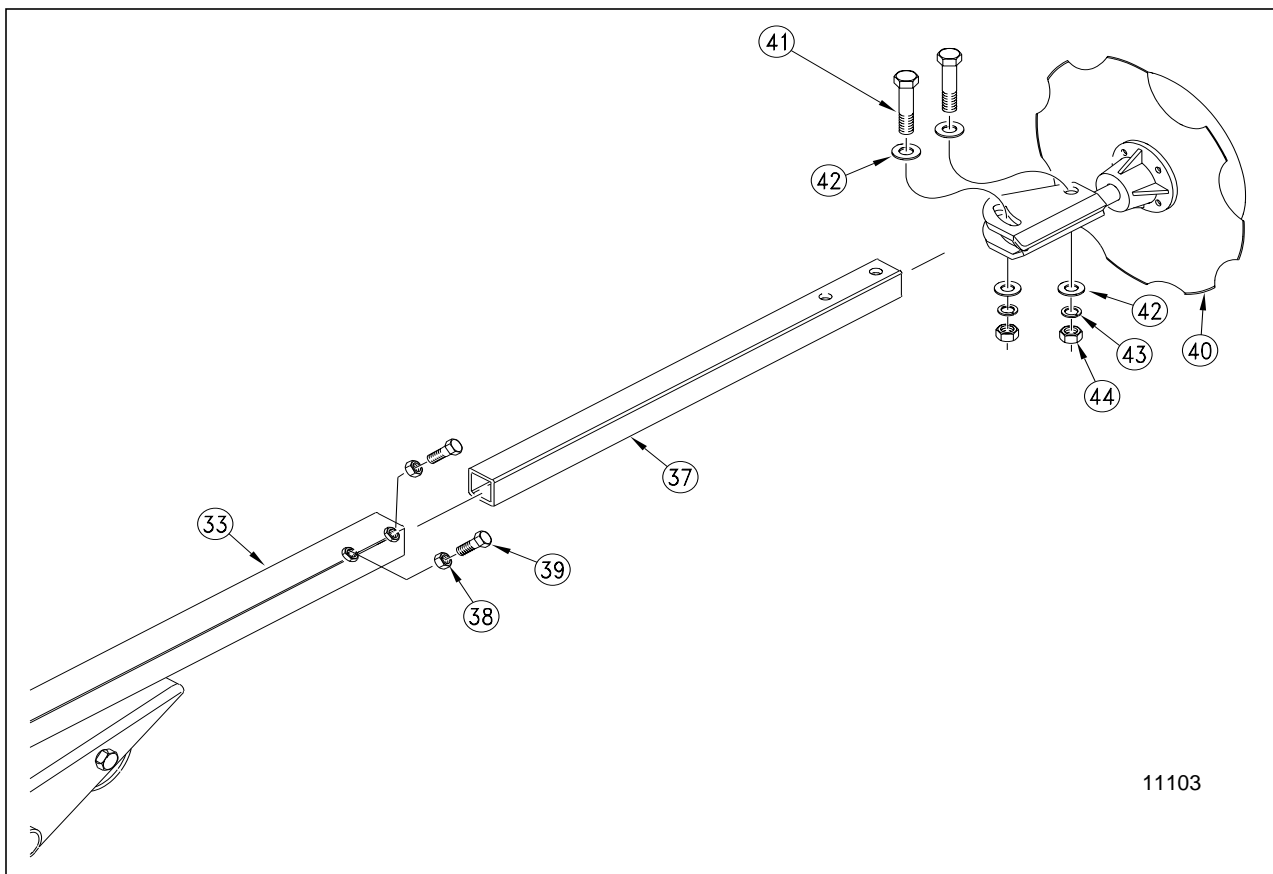

Fig. 5
7. Referring to Fig. 5, slide the fourth section tube (# 37) inside the 3rd section (# 33). The holes in the 4th section must be to the outside of the drill and need to be on the top and bottom side as shown. Thread the jam nuts (# 38) on the square headed set screws (# 39). Thread the set screws into the nuts welded to the outer end of the 3rd section (# 33). Tighten the set screws and jam nuts.
8. Again referring to Fig. 5, slide the blade and spindle assembly (# 40) over the 4th section tube (# 37). Pass the bolt (# 41) through a flat washer (# 42), through the hole in the spindle weldment, and through the holes in the 4th section tubing. Complete the joint by fastening a flat washer (# 42), a lock washer (# 43) and a nut (# 44) onto the bolt. In a similar manner, install the second bolt through the adjustment slot, next the first bolt. Tighten these two nuts.
1. **DISK ANGLE.** To change the angle of cut, loosen the two bolts (#41) Fig. 5 on page 1-6, rotate the disk assembly and retighten.
- b. Reverse the angle of the assembly by removing the adjustment bolts (#41) Fig. 5 on page 1-6 and turning the spindle assembly one half turn. Reinstall and tighten all bolts.